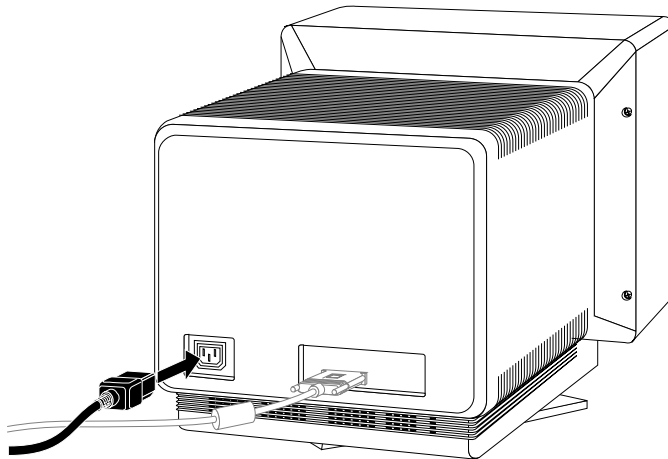

Figure 2-16 Attaching the Power Cable to the Monitor
1. Connect one power cable to the monitor, as shown in Figure 2-16.